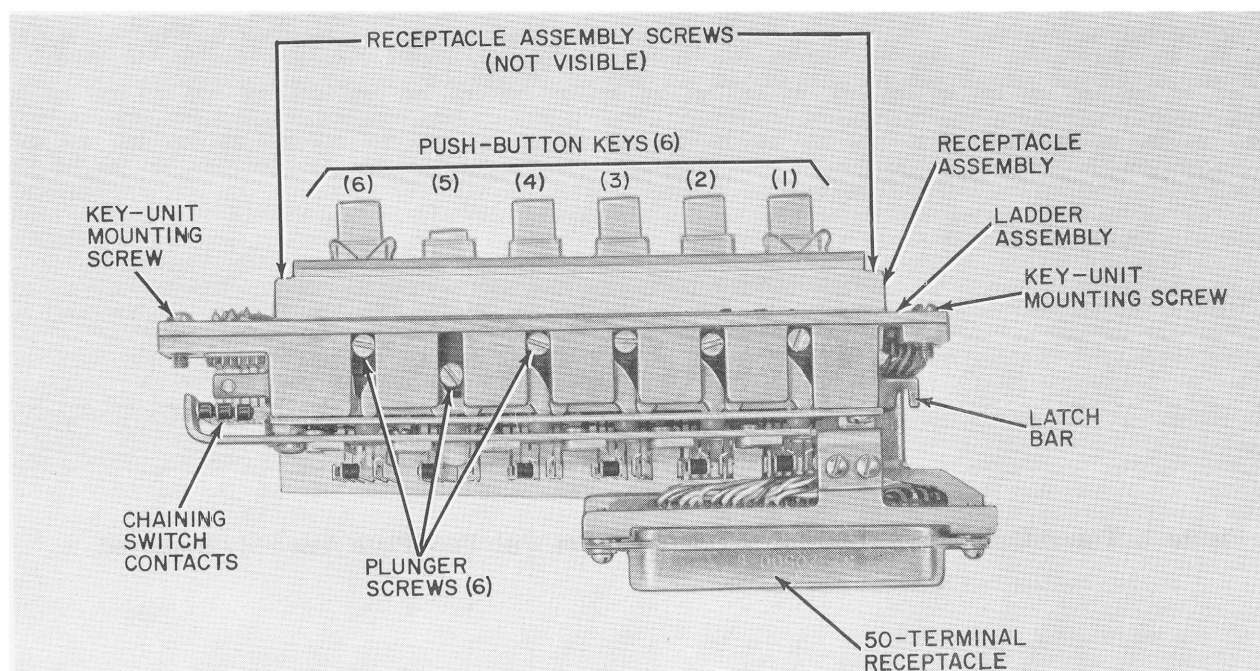

Figure 4. Key-strip Unit Comprising Six Line Pickup Keys.
2.06 Each vertical row of six keys is made up of a key-strip unit (Figure 4). Each key-strip unit is equipped with a 50-terminal receptacle through which all connections to the key-strip unit are made. No further soldered connections or other wiring is required. These receptacles connect directly to 50-terminal plugs which are fastened to the key frame assembly. There are three 50-terminal plugs, one for each key-strip unit. Not all terminals on any plug are used.